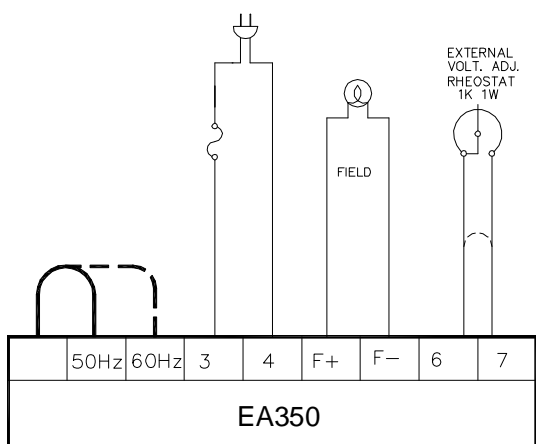

Figure 4 Operational Test Diagram
1. Connect the Analog Voltage Controller as shown in the operational test diagram of Figure 8. Do not apply power. Ensure that the light bulbs are rated for 120 volts and less than 100 watts. Figure 4. Operational Test Diagram.